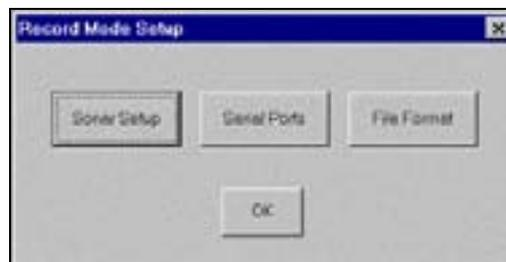
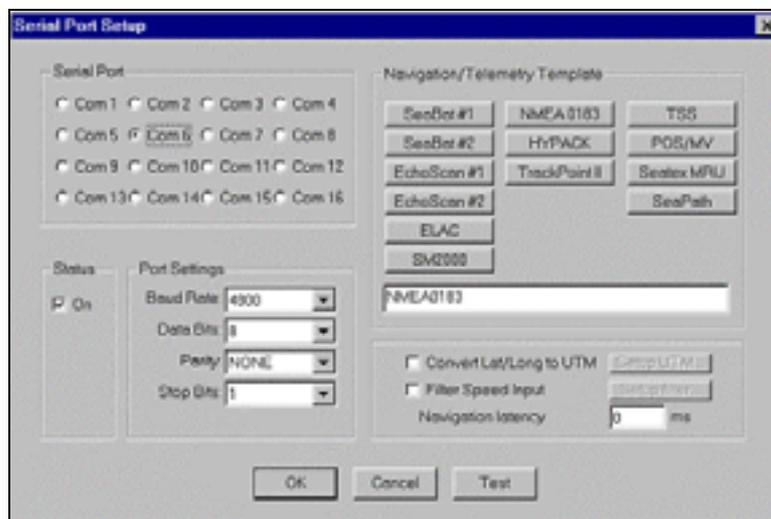
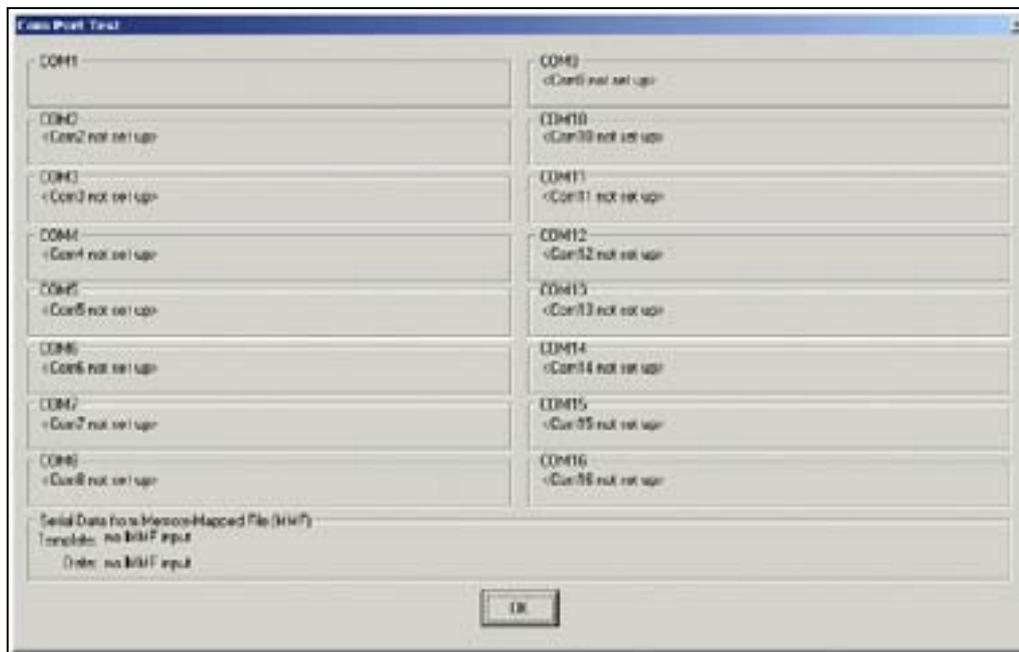

Figure 48 The Record Mode Setup window in Isis.
Figure 52 The Serial Port Setup window used in Isis.
Figure 53 The Com Port Test window in Isis.
To set up Isis so that it knows which sonar it will be acquiring data from, which data channel from the selected sonar it needs to display backscatter and which channels need to be saved to disk, click on the File menu and select the Record Setup. This will cause the Record Setup Options window (see Figure 48) to be spawned. In this window there are three choices: Sonar Setup, Serial Ports, and File Format. These three dialogue boxes are fundamental to setting up Isis ready for data collection, because they control:
The first step in configuring Isis so that it will interrogate a particular com port, decipher the data arriving on it, and then incorporate the data into the sidescan sonar data file, is to click on the "Serial Ports" tab in the Record Setup window (see Figure 48). When this is done the Serial Port Setup window is spawned (see Figure 52) and it is in this window that the settings are made.
- If data is being transmitted to the com port then it is possible to test that the settings made above will save the data appropriately. This is possible by either clicking on the Test button in the Serial Port Setup window or clicking on “Com Port Test” from the “Tools” menu in the main Isis window. This displays the Com Port Test window (see Figure 53) in which a panel exists for each com port showing the activity on it and how Isis is deciphering this activity. The panel will display “Com port not set up” if the status box for the port is not checked
- When each com port has been setup correctly click the OK button in the Serial Port Setup window (Figure 52).
Similar to testing the set up of each com port when a predefined template is used, to test that a template has been created correctly, click the "Test" button in the Serial Port Setup window (Figure 52) or select "Com Port Test" from the "Tools" menu of the main Isis window. This displays the Com Port Test window (see Figure 53) in which the data Isis is obtaining for each com port is shown. The panel will display "Com port not set up", if the status box for a port is not checked as on, whilst for the serial ports that are checked, any data being received is displayed. If the data needing to be recorded is not being displayed then either the template has been incorrectly constructed, or the port settings have been set incorrectly.